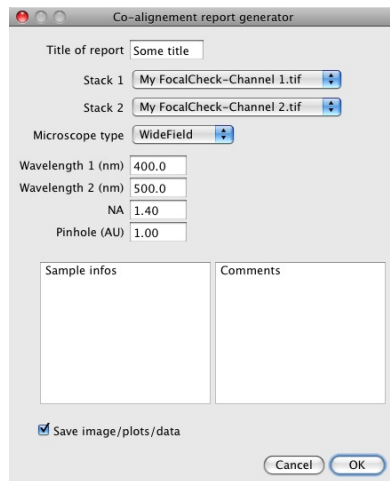

Figure 6.3: Generate co-alignment report: the interface.
4. The plugin's interface should appear (see fig. 6.3);